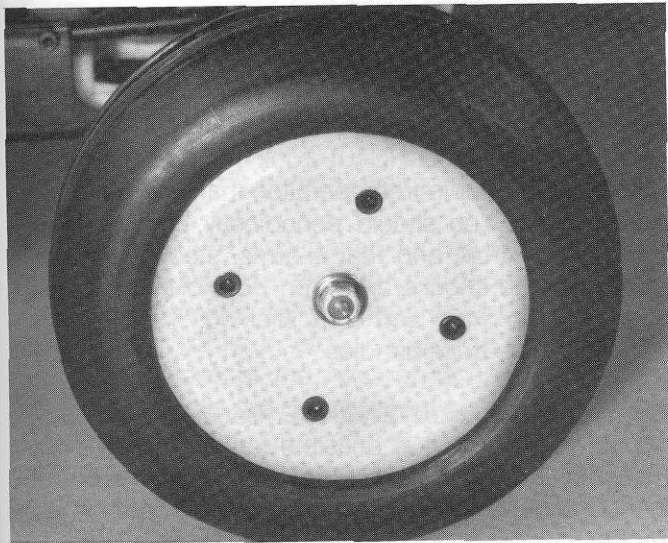

**Fig. 154**
**Fig. 154** Install the rear wheel on the rear axle. You'll probably have to turn the wheel until you seat the groove in the back of the wheel over the split pin in the rear axle. When the wheel is correctly seated, install and tighten the 8/32" axle lock nut. Do both sides.